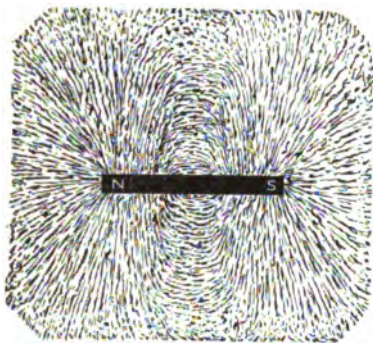

Fig. 11. Field of Force about a Bar Magnet
**Magnetic Field.** If a bar magnet is placed on a sheet of glass and a handful of fine iron filings thrown around it, they will automatically assume the position shown by Fig. 11. As originally dropped on the glass some of the filings may not be within reach of the influence of the magnet, but if the glass be gently tapped and tilted slightly, first one way and then another, they will arrange themselves in the symmetrical pattern shown. This gives a graphic illustration of the *field of influence* of the magnet, usually termed the magnetic field. This field is most powerful at the poles, as will be noted by the attraction of the filings at the N and S points, representing the north and south poles of the magnet. At intermediate points along the length of the magnet the filings will be seen to have placed themselves as if to indicate a circular movement